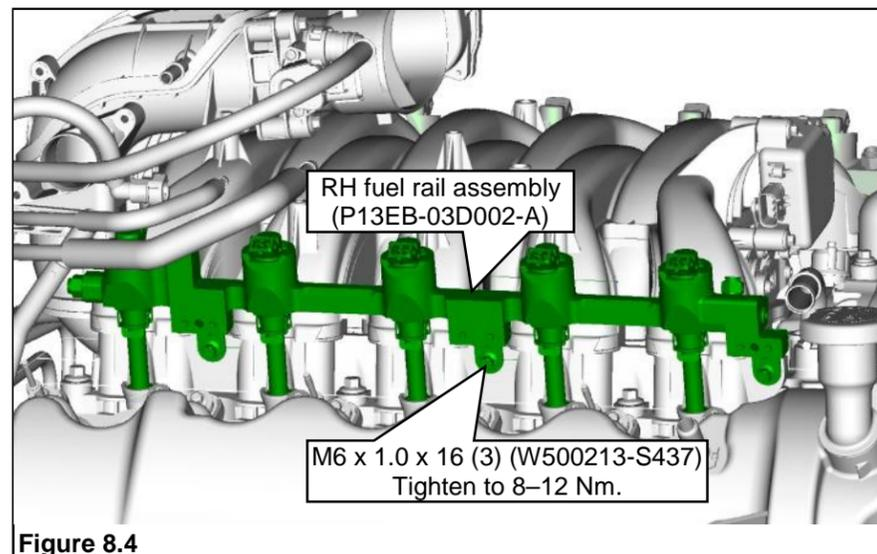

Figure 8.4
5. Position right hand fuel rail assembly onto passenger side of intake manifold and fully seat nozzles. Using three M6 x 1.0 x 16 bolts found in hardware kit P12EB-ENKIT-A, secure fuel rail to intake manifold. Tighten bolts to 8–12 Nm. **Figure 8.4.**